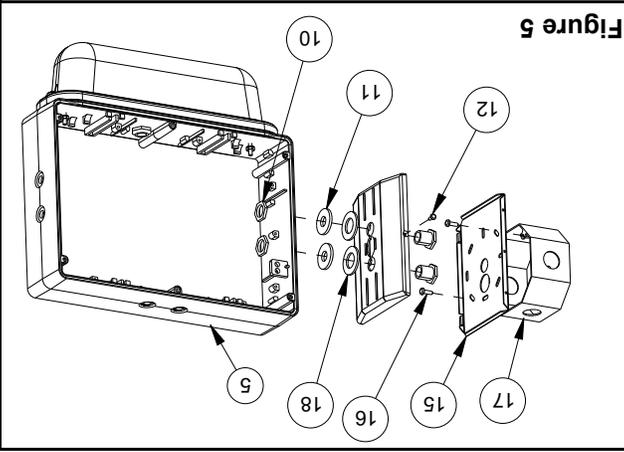
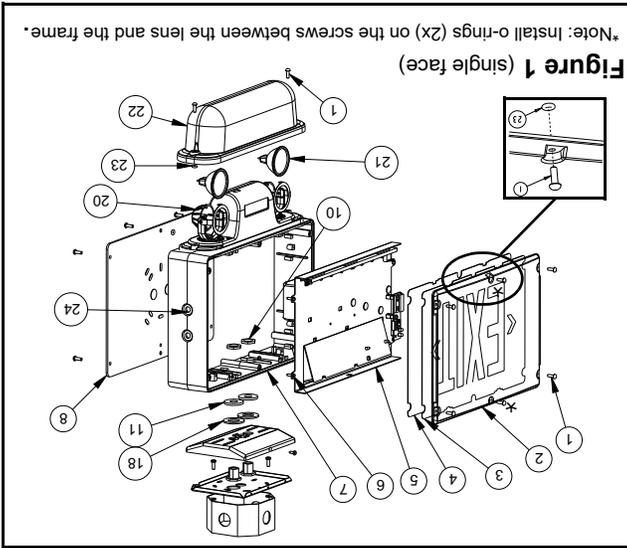

Figure 5
Figure 1 (single face)
- h. Determine which holes in the exit frame will be used for mounting (see fig. 1, 2 & 5). Support frame with two blocks of wood, maximum one inch apart. Strike knockouts with a hammer and screwdriver. Clear holes of burrs to allow proper assembly of nipple/wire assembly. Note: end mount installation is weatherproof but not certified for Nema 4X (see fig. 5).
- i. Secure canopy to the frame by threading the provided nipple/wire assembly through the canopy and frame. Make sure the gasket washers are between the canopy and frame, and that the locknuts (11) are inside the exit sign (see fig. 5).
- c. Remove proper knockouts in canopy backplate for desired mounting position. **For Nexus wired option**, install the liquidtight™ fitting, provided with the unit. For side mount, use the knockout located on top of the unit. For ceiling mount, use the knockout located on side of the frame (see fig. 5).
- e. Make sure the securement screw is accessible (see fig. 1 & 2 part # 13). Use existing screws in junction box to secure canopy backplate to the junction box.